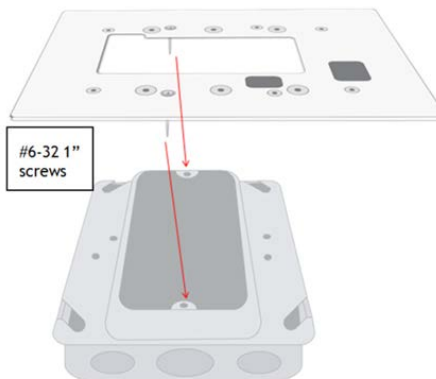

Figure 17: JBOX, Mud Ring & Adapter Plate
- Step 24 Mount the Telkonet JBOX adapter plate to the mud ring with two #6-32 1" screws. See Figure 17.